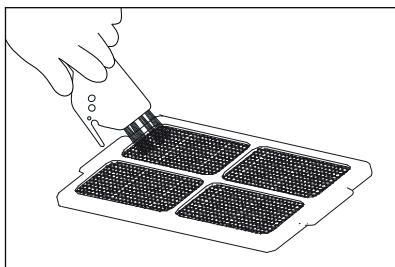

Fig. 11
- 5) Clean the sieve filter with the cleaning brush 10 (see Fig. 11).